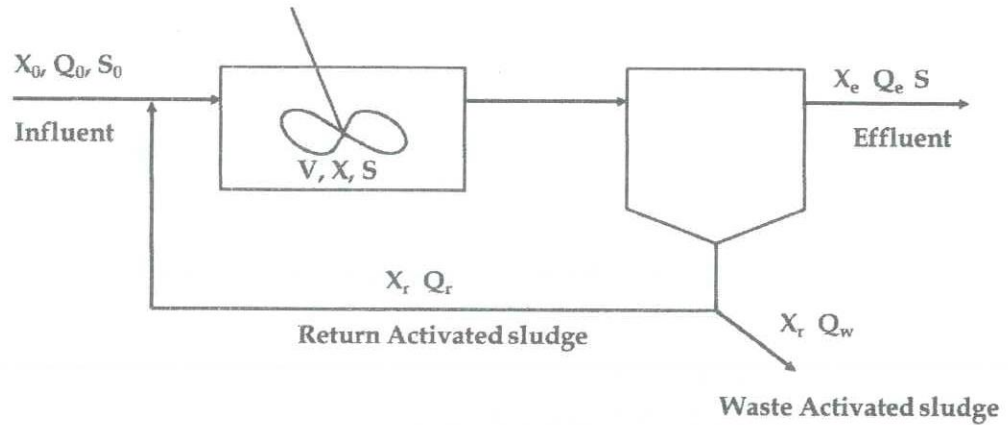

Figure Q5: Schematic of the ASP
- b) A complete-mix activated sludge process (ASP) (Figure Q5) is designed to treat a primary settled wastewater flow of 0.15 m³/s. The influent soluble BOD₅ to the ASP is 200 mg/L at the average flow conditions. The effluent BOD₅ is expected to be 20 mg/L. Following data are available for the ASP: